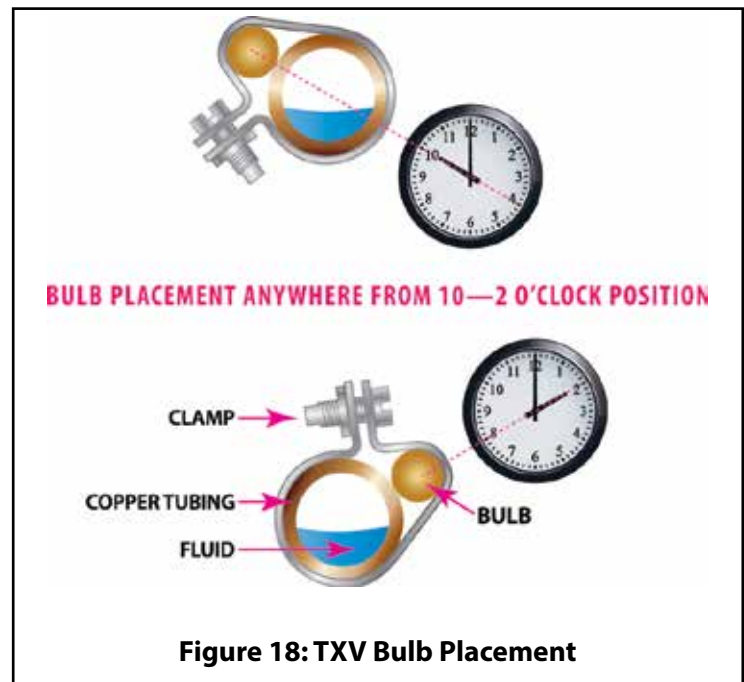

Figure 18: TXV Bulb Placement
The best location for the TXV sensing bulb is on a horizontal section of the suction line tube and positioned between 10 o'clock and 2 o'clock on the tube. (See Figure 18).
The TXV is a precision device designed to regulate the rate at the ideal location for the TXV sensing bulb is on a horizontal section of the suction line tube and positioned between 10 o'clock and 2 o'clock on the tube. (See Figure 18) .
- a) The sensing bulb should be installed on a horizontal run of the suction line if possible and should be positioned between 10 o'clock and 2 o'clock as shown in Figure 18.